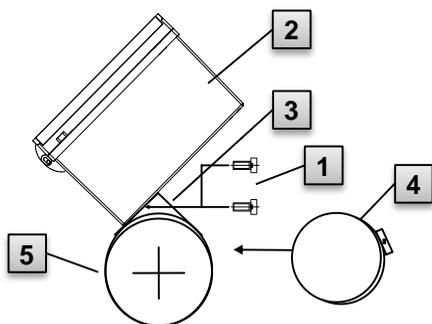

Fig. 7
- Using two M5 x 10 mm (Fig. 7: 1) cylinder screws, insert the A2 universal bracket in the boreholes provided (Fig. 7: 3) on the EK280 (Fig. 7: 2).
- The A2 universal bracket (Fig. 7: 3) and the device (Fig. 7: 2) should be fastened to the pipeline (Fig. 7: 5) using the pipe clamp (Fig. 7: 4)